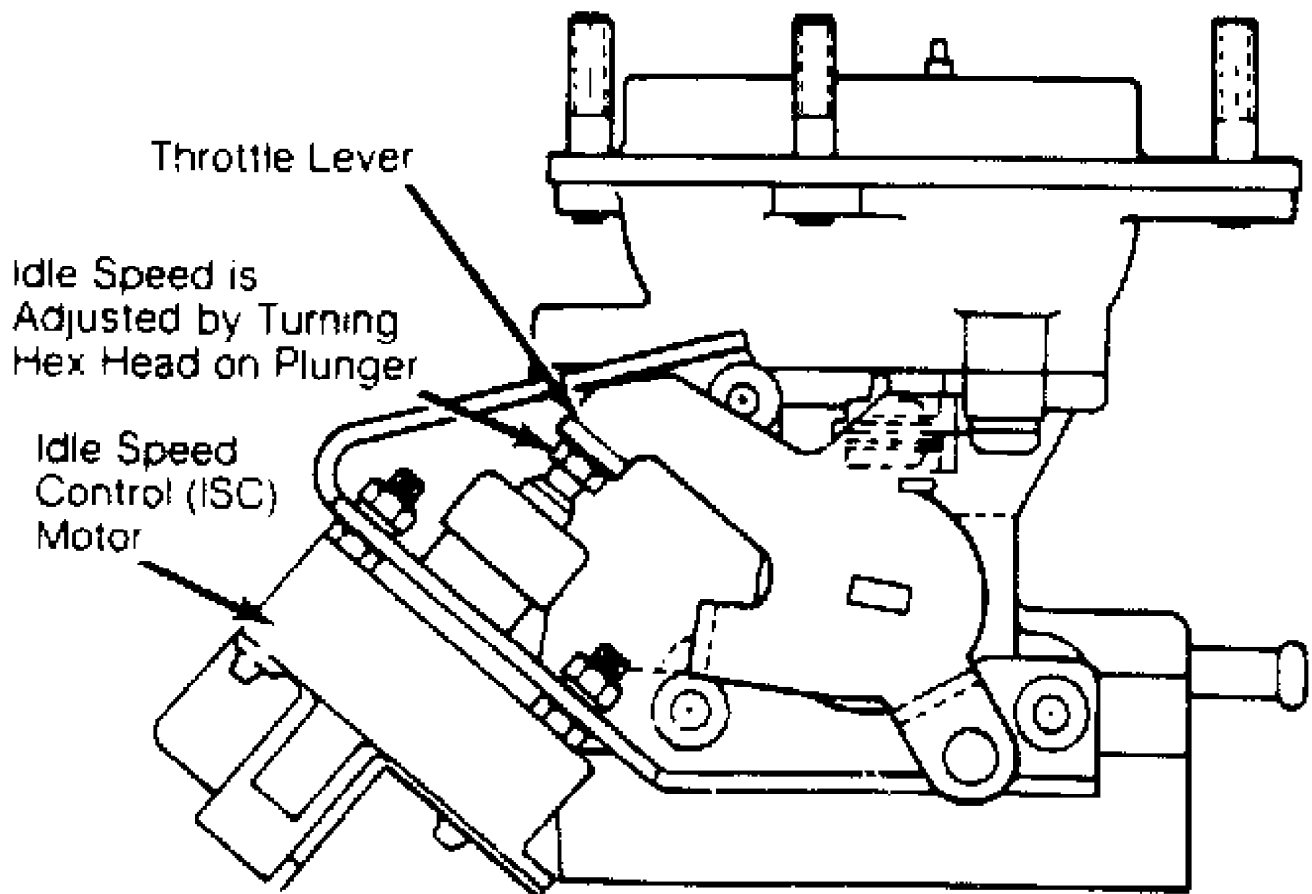

Fig. 3: TBI Idle Speed Control (ISC) Motor Adjustment
2) With plunger extended, disconnect ISC motor electrical connector. Start engine. Engine idle speed should be 3300-3700 RPM. If not, turn plunger hex head to obtain 3500 RPM. See Fig. 3.